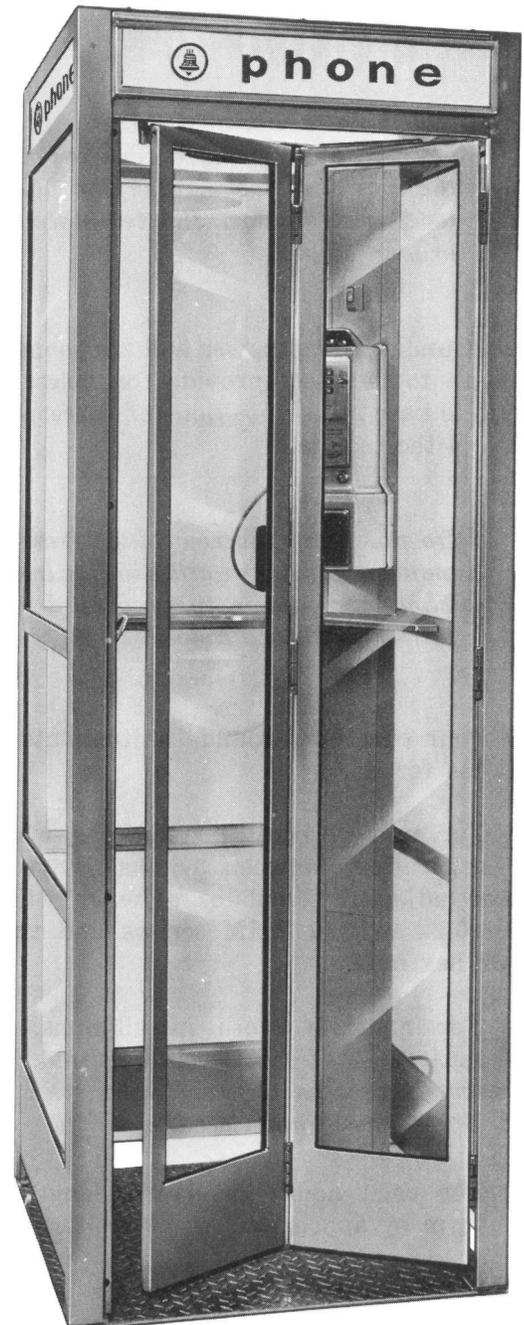

Fig. 1 — KS-19425 Booth (Indoor-Outdoor)
1.02 The overall dimensions of the booth (Fig. 1) are:
(a) At outdoor locations, the door is usually adjusted to remain open 2 to 3 inches when the booth is not being used (Fig. 1). If desired, this adjustment can be changed so the door will remain closed.